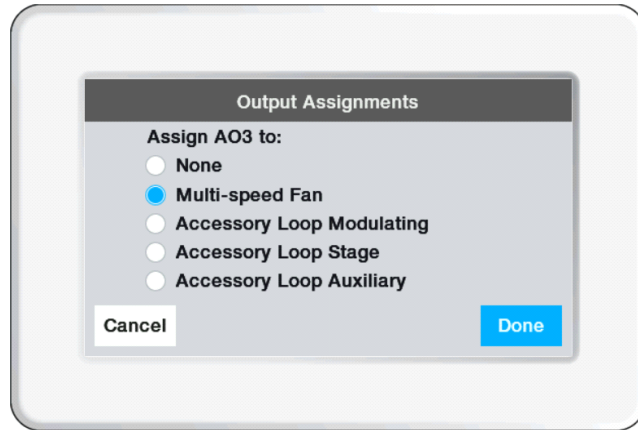

Fig. 6.
- e. Then “Multi-speed Fan”. This configures the analog output that is wired to the 0-10 VDC input on the VFD, see Fig. 6.